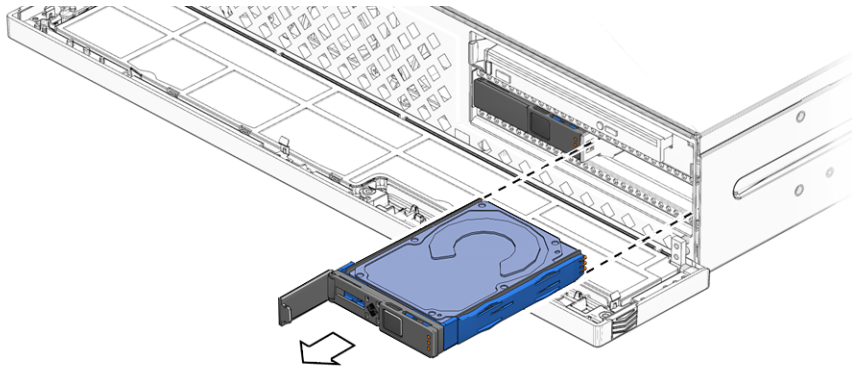

FIGURE 3-4 Removing Hard Drive
5. Grasp the latch and pull the drive out of the drive slot (FIGURE 3-4).